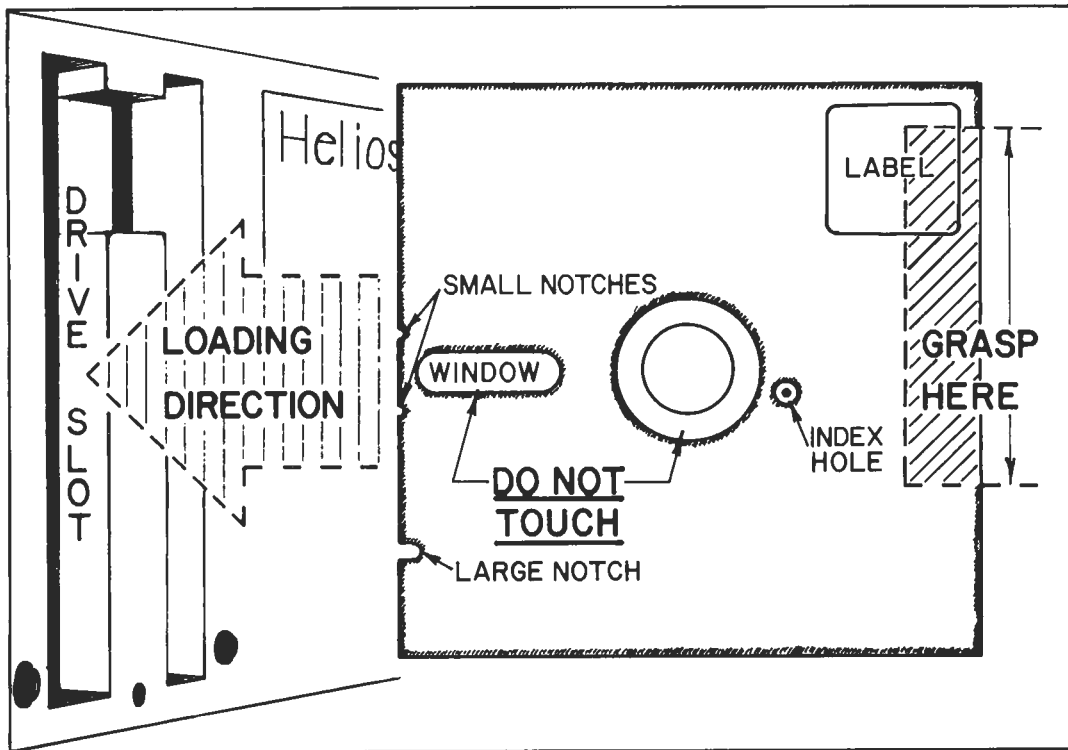

Fig. 4-4 Diskette Orientation for Loading
2. Grasp the diskette on its edge opposite the notched edge (opposite the rectangular window with the rounded edges.) (Refer to Fig. 4-4, Diskette Orientation for Loading.)